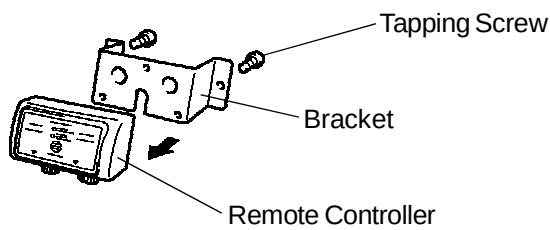

Fig. 4
- 1) Secure the Remote Controller to the Bracket with M4 x 8 Tapping Screws (Accessory) as shown in the illustration. See Fig. 4.